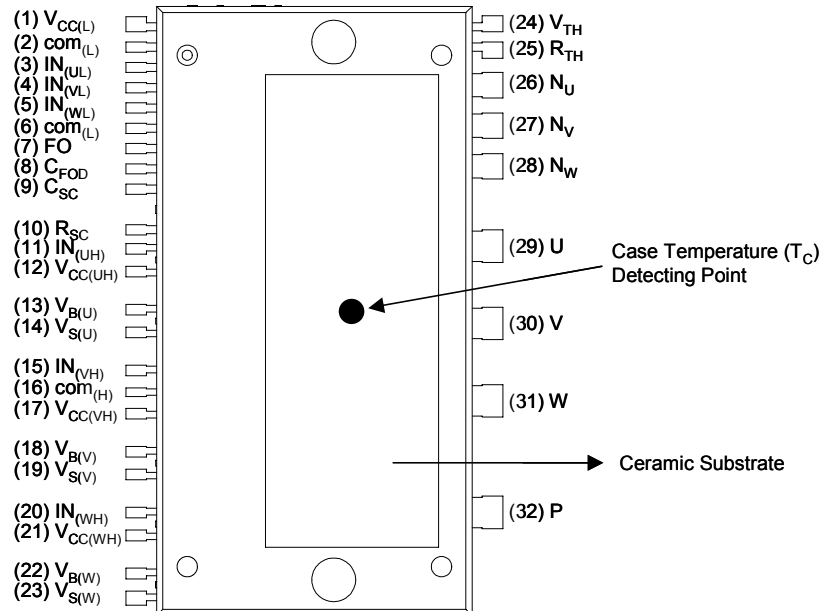

Fig. 2.
- For the measurement point of case temperature (T_C), please refer to Fig. 2.